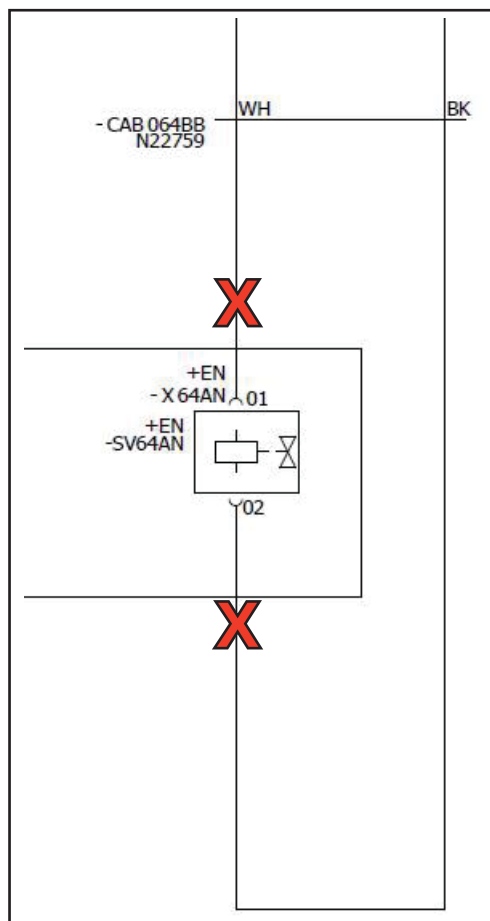

Figure 3 - Wires to be Cutted and Insulated on the +EN-X64AN Connector
- 1.6. Disconnect the +EN-X64AN electrical connector and cut the two wires from the CAB064BB cable close to the connector shell. See Figure 3. Discard the connector.
- 1.7. Cut two pieces of N27548-18 heat shrink tubing and install a piece on both cut wires to insulate them properly. See Figures 3 & 4.